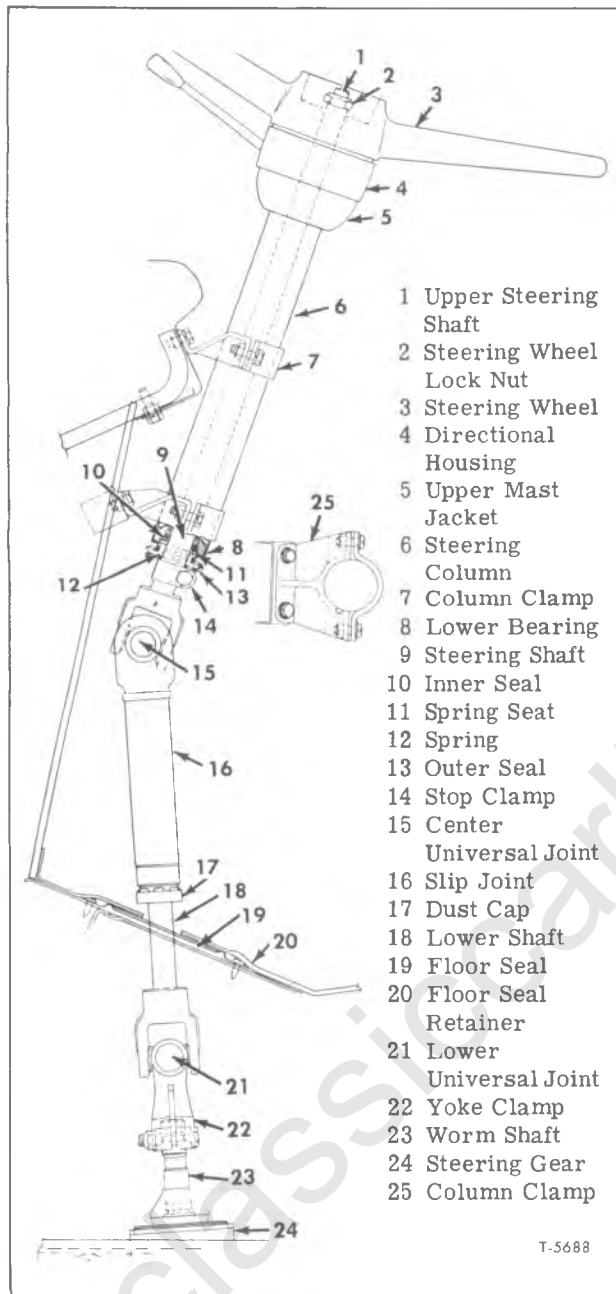

Figure 17—Steering Column and Shaft (Tilt Models)
(Key Numbers Refer to Figure 17 Unless Otherwise Indicated)
3. Remove three screws (7) which retain directional signal switch to signal housing. Remove directional switch and harness.
4. Remove directional switch housing (4) from column (5) by turning counterclockwise to unlock from tabs.
5. Pull, or pry lower bearing (8) from steering column, if damaged or defective.
6. Remove inner seal (10), spring seat (11), spring (12), outer seal assembly (13) and stop clamp (14) from upper steering shaft.
7. Refer to figure 13 to separate upper and lower steering shafts at joint (15) (fig. 17). Remove two snap rings (2), and tap yoke sideways to dislodge bushings (1) of adjoining yoke; repeat operation until all bushings are removed. Remove cork seals (3) from journal (4) and discard.
8. To remove slip yoke (16) from lower shaft assembly (18), bend tabs of dust shield (17) away from retainer groove. Pull shaft, felt seal, and washer from yoke sleeve. Slide components from shaft, and discard seal.
Refer to figure 17 unless otherwise indicated.